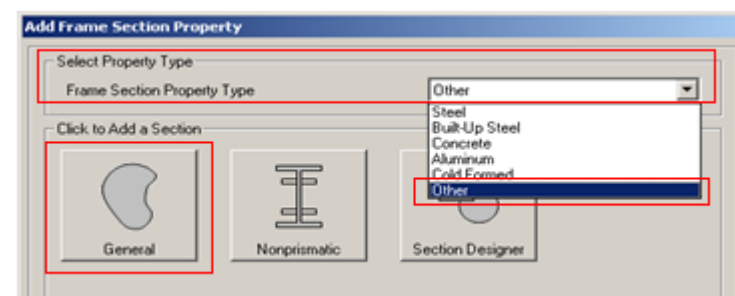

Figure 8
b) Frame Sections: To define the cross-sectional properties of structural elements, click on **Define>Section Properties > Frame Sections**. The **Frame Properties** window will appear. If you do not want to use standard sections, hit **Add New Property** button. **Add Frame Section Property** window will appear, from the **Frame Section Property Type** drop-down menu, choose **Other** and hit the **General** Button (Fig 8). (Please note that one can as well assign a Rectangular frame section and enter the width and depth as well, if the section is rectangular and dimensions are known.)